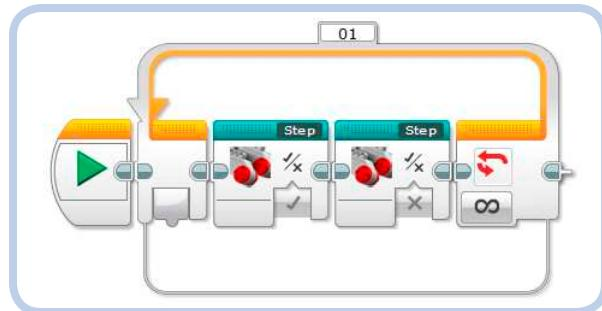

Figure 10-10: The finished program *BP_EDIT_MB2*, with two My Blocks set with different parameters
7. Select and drag the *Step My Block* while holding the **CTRL** key to copy it; then drop it beside the other block. Now set the first block input to **True** and the second to **False** to use the same My Block to shift the weight from side to side. Your program should look like Figure 10-10.